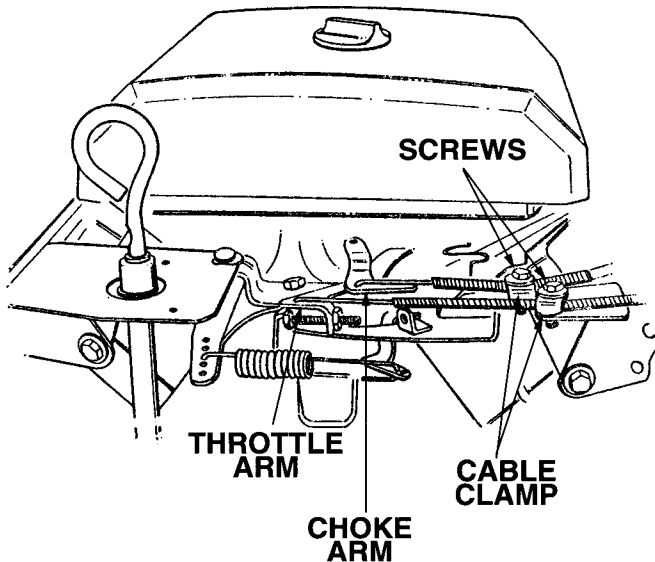

Figure 5-42. Engine Control Cables (Model 2185 shown).
4. Disconnect the throttle and choke cables from the engine by removing the screws and cable clamps (Fig. 5-42) securing the cables to the engine.